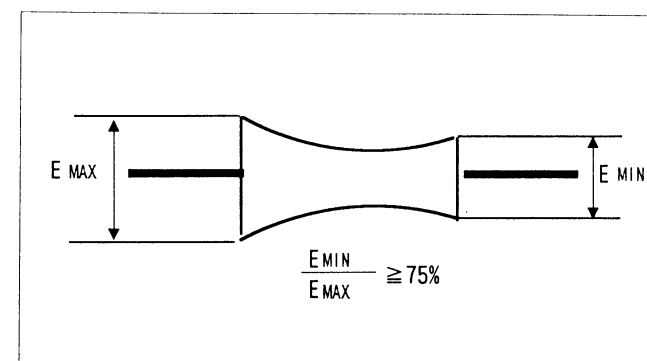

Fig. 1-12
- 3) Confirm that 75% of maximum envelope is minimum envelope of RF Waveform in this condition. (Fig. 1-12)